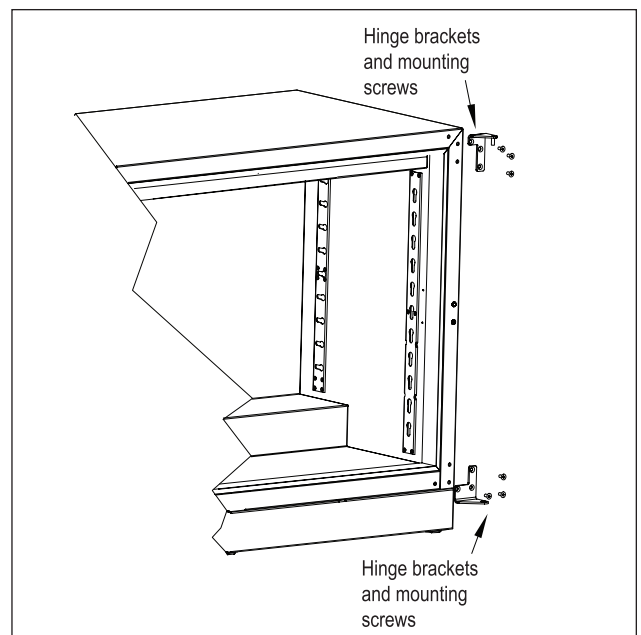

Figure 5: Hinge Installation
5. Using the screws removed in step 3, install the top and bottom hinge brackets from kit (Figure 5).